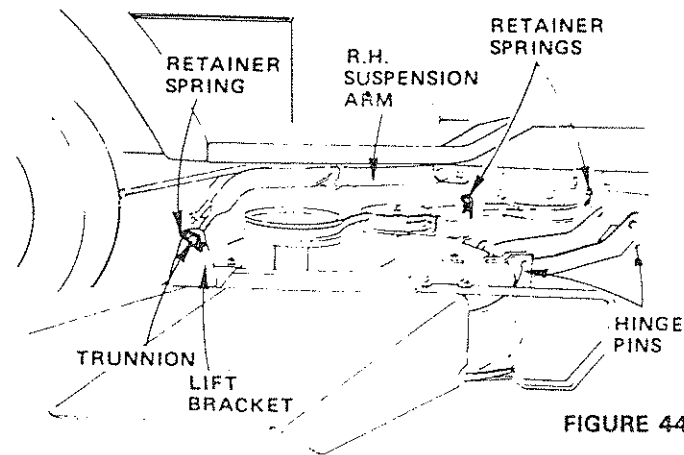

FIGURE 44
3. Pull Retainer Springs out of Rear Suspension Trunnions. Remove Rear Suspension Trunnions from Lift Brackets (Fig. 44).
5. Pull Retainer Spring out of Front Hinge Pin. Remove Front Hinge Pin (Fig. 44).
NOTE: IF AN ATTACHMENT OTHER THAN THE MOWER DECK IS TO BE MOUNTED ON THE TRACTOR, THE L.H. AND R.H. SUSPENSION ARMS (FIG. 44), SHOULD BE REMOVED FROM TRACTOR.